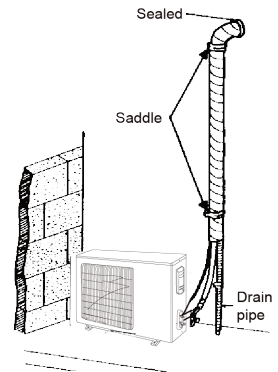

Fig. 4.17
- (1). If the outdoor unit is installed lower than the indoor unit (See Fig. 4.17)